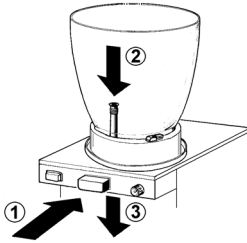

figure 3
- 3 Push (1) the dispensing button and insert (2) the pinch tube into its seat in the evaporator bottom. Lightly pull (3) the pinch tube end downwards till it is well arranged (see figure 3).